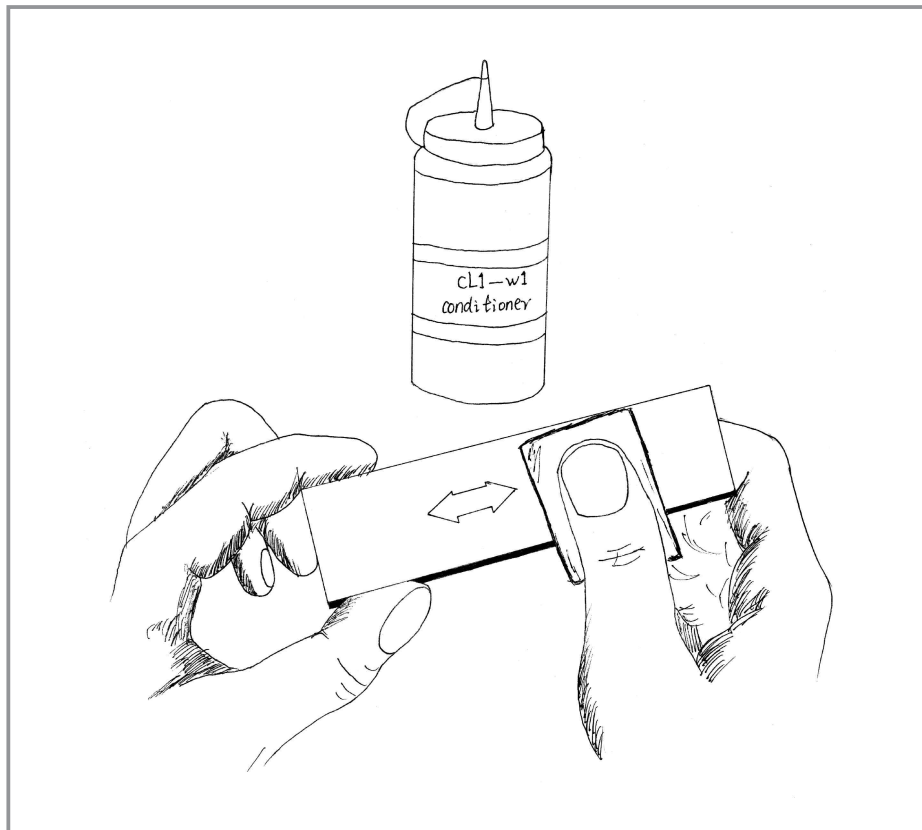
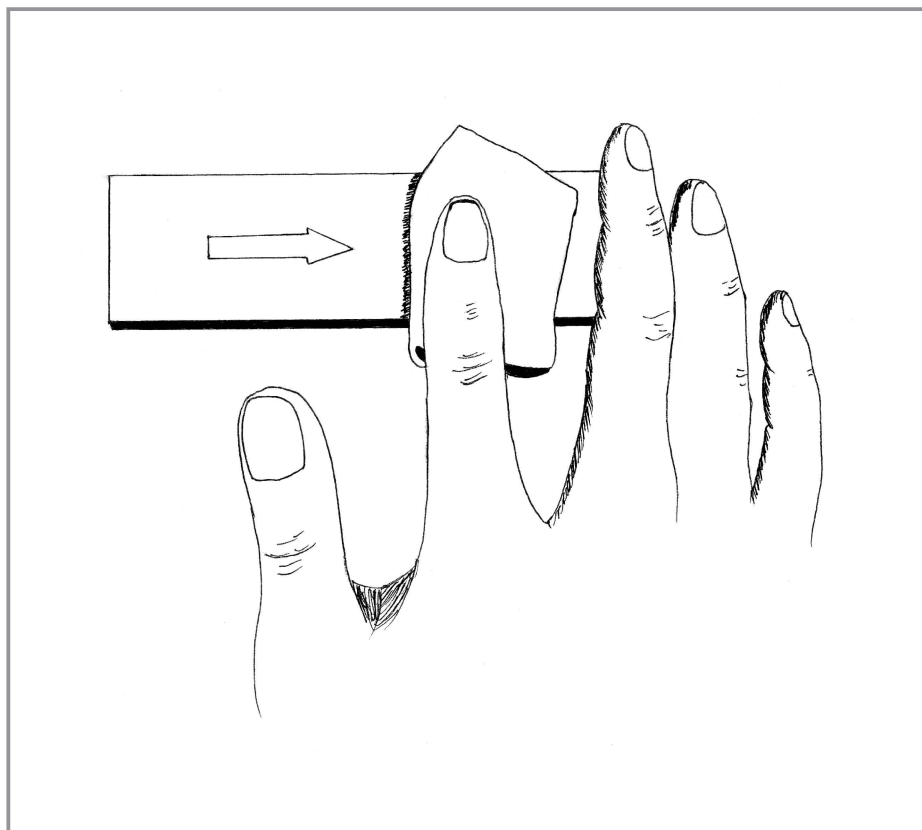

Fig. 2
Fig. 3
**1-2** Pre-abrade the bonding surface of the metal plate with 220- or 320-grit sandpaper to remove any scale or oxide. Then wet the bonding surface thoroughly with the phosphoric-acid conditioner CL1-W1 and abrade the surface with the 320- or 400-grit sandpaper as shown in Fig. 2. Dry the surface with a gauze sponge after the abrasion as shown in Fig. 3.